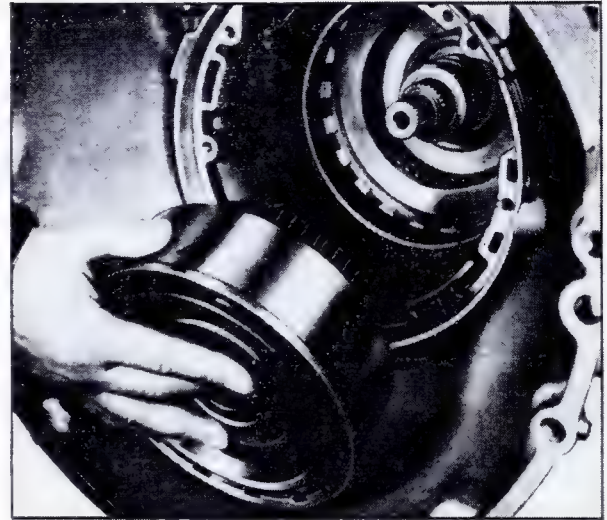

Fig. 7-55 Removing Direct Clutch and Intermediate Sprag Assembly
3. Remove direct clutch and intermediate sprag assembly, Fig. 7-55. Sun gear shaft may come out with direct clutch assembly.